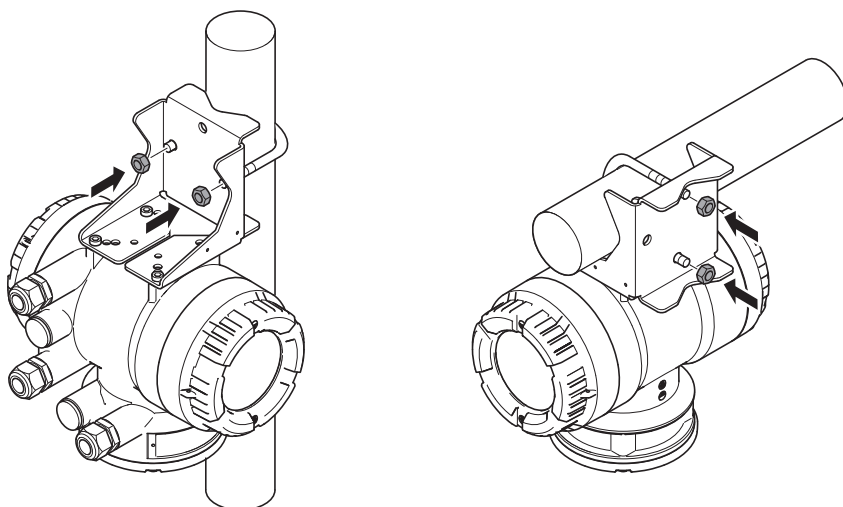

Fig. 20: Hanging installation for remote transmitter
See figure below (Fig. 20) for possible transmitter mounting alternatives (recommended for sanitary applications, then consider appropriate screws like hexagon head).
- Transmitter mounting is restricted to hanging installation (see *Installing transmitter on pipe (remote type)* [▶ 39], fig. 20)